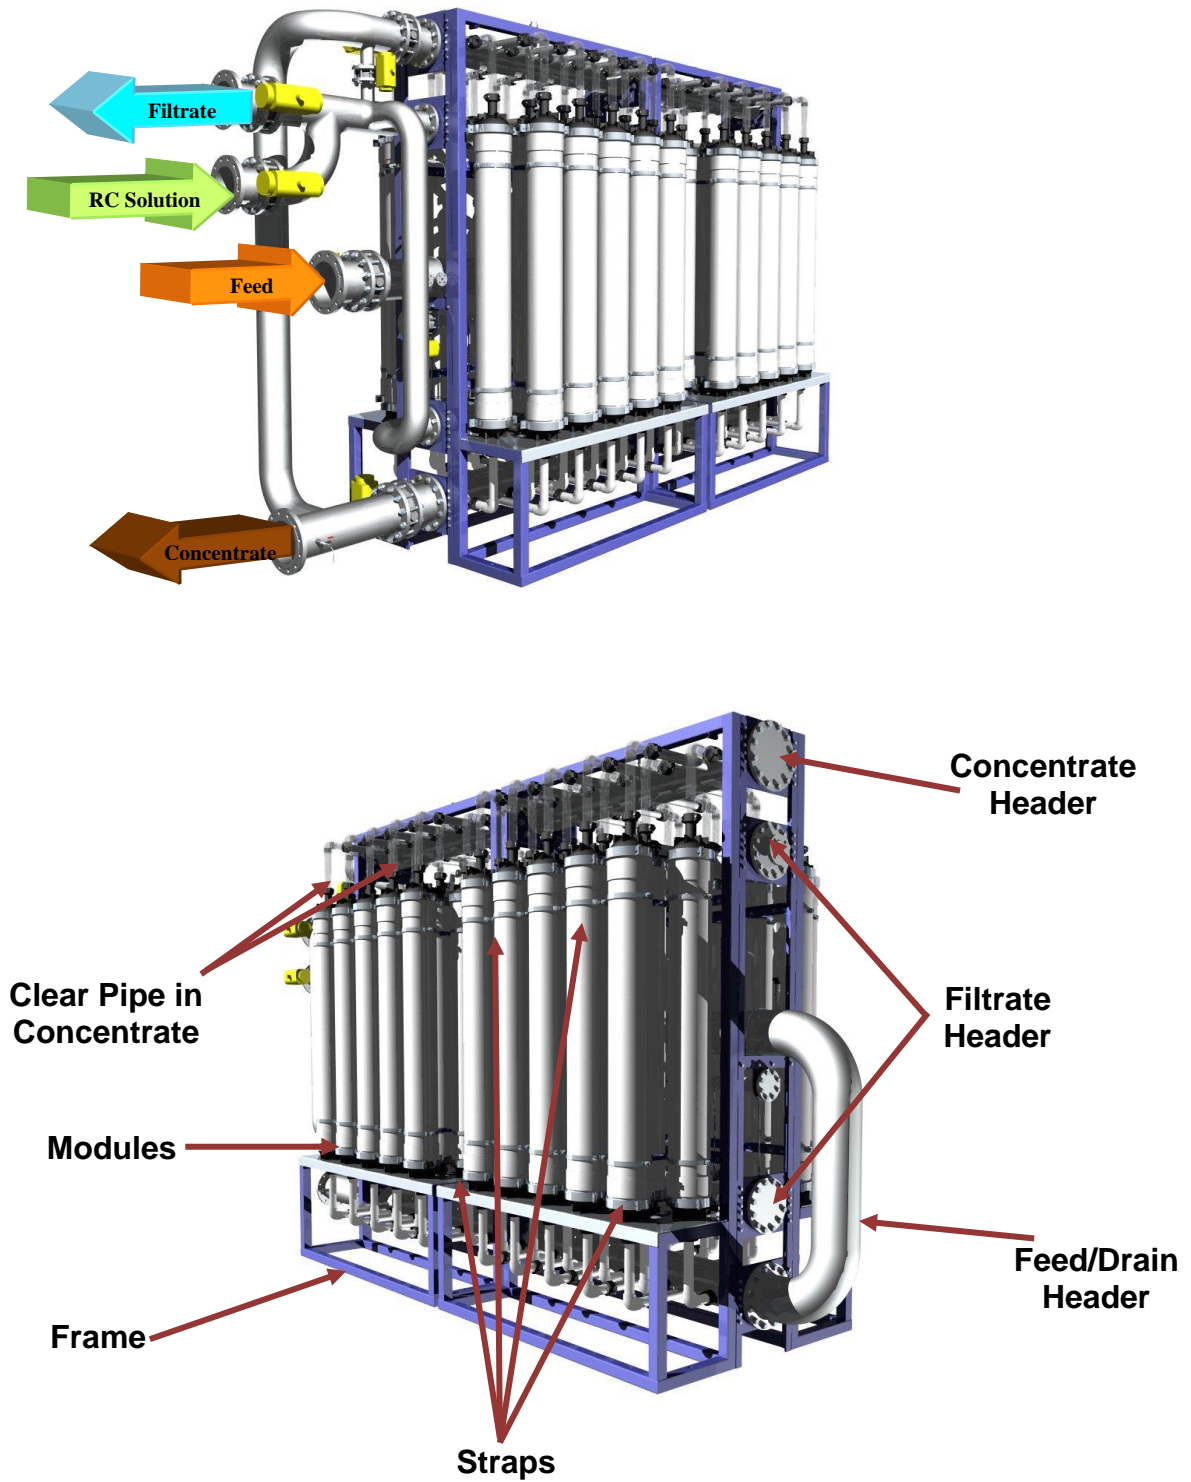

Figure 3: Example Rack Assembly Drawings
4. A suggested rack design is shown below in Figure 3. Hydranautics suggests double Victaulic flexible joints to connect all four ports of each module to the rack piping for the following reasons: